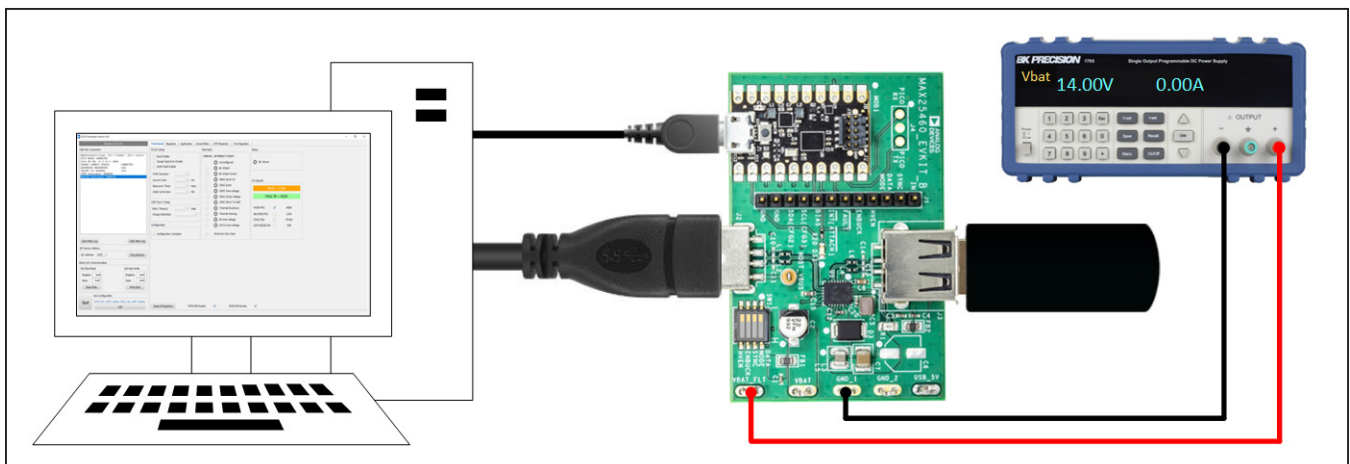

Figure 1. EV Kit Setup
- 3) Connect the EV kit to the PC with USB Micro-B and USB-A extension cables (see Figure 1).